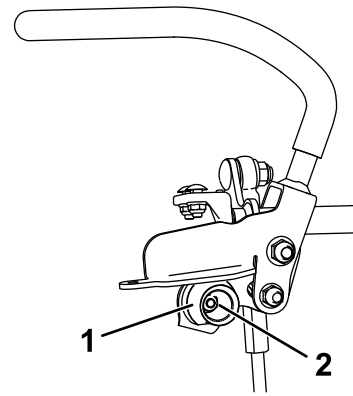

Figure 43
6. Loosen the nut holding the cam (Figure 43).